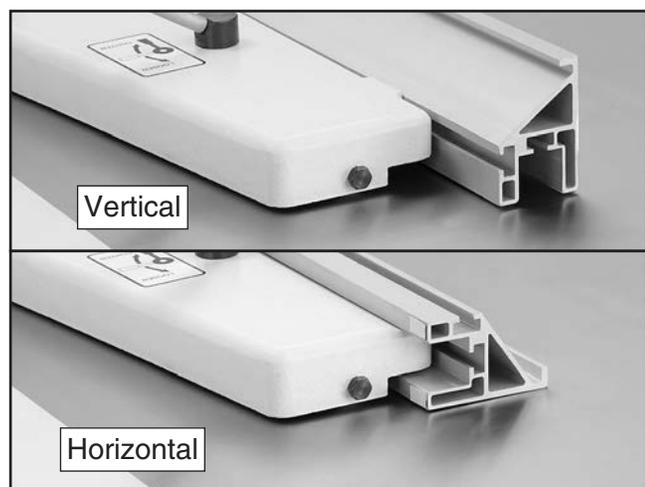

Figure 100. Rip fence positions.
3. The rip fence can be installed in the vertical position for thicker workpieces, or in the horizontal position for smaller workpieces (see **Figure 100**).